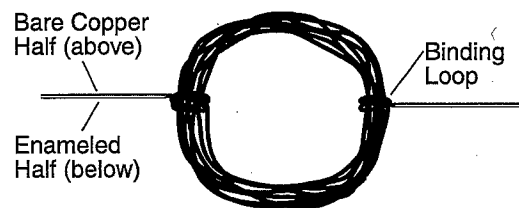

Figure 3. Coil Armature
4. To secure the loop shape permanently, wrap each free end through the loop and around the coil of wire 2 to 3 times. Make sure the binding loops are 180° apart and wrapped tightly around the coil wires. Straighten the free ends so that they are perpendicular to, but in the same plane, as the coil to serve as the axle for the coil armature (see Figure 3).
6. Obtain a small piece of sandpaper. Hold the coil at the edge of a table so the coil is straight up and down and one of the free ends is lying flat on the table. With the sandpaper, sand off the top half of the insulating enamel. Leave the bottom half of the enamel intact. Do the same to the other free end. Make sure the shiny bare copper side faces up on both ends (see Figure 3).